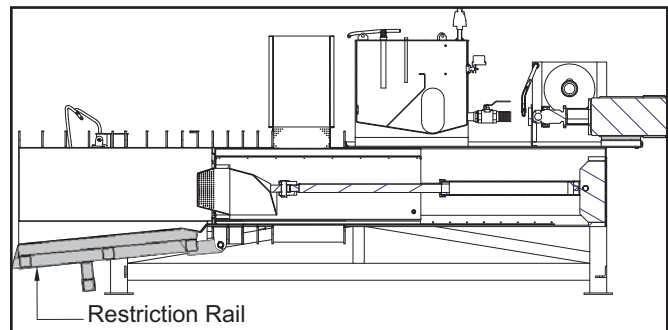

Figure 23 - Restriction Rail Lowered
The restriction rail (see Figure 23), provides a variable restriction (modulation) on the passage of product to the discharge. This restriction regulates the force required from the plunger to push the product toward the discharge. It is the compressing action of the plunger that forces the water from the product. The water is evacuated through drain holes in the frame.
Note: Moving the control box RESTRICTION Switch (S-2) from “AUTO” to “MAN” allows the automatic restriction control system feature to be bypassed. In Manual mode, the Restriction Rail cylinder pressure is zero (0) and the Restriction Rail will fully open (lower) (see Figure 23).